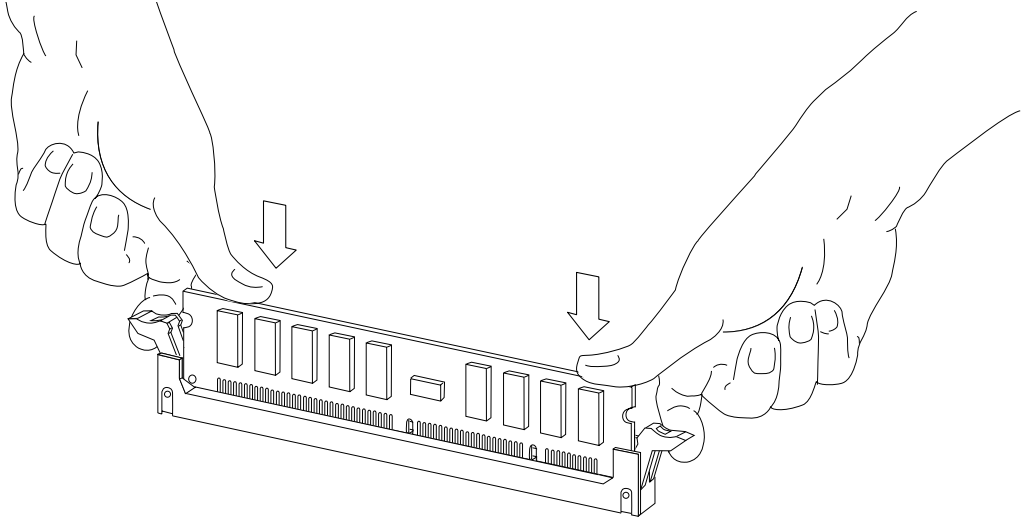

FIGURE 3-16 Installing a DIMM
5. Place your thumbs on the top edge of the DIMM and push the DIMM firmly into its connector (FIGURE 3-16).
6. Lock the DIMM in place by pushing both ejector levers into the upright position (FIGURE 3-16).